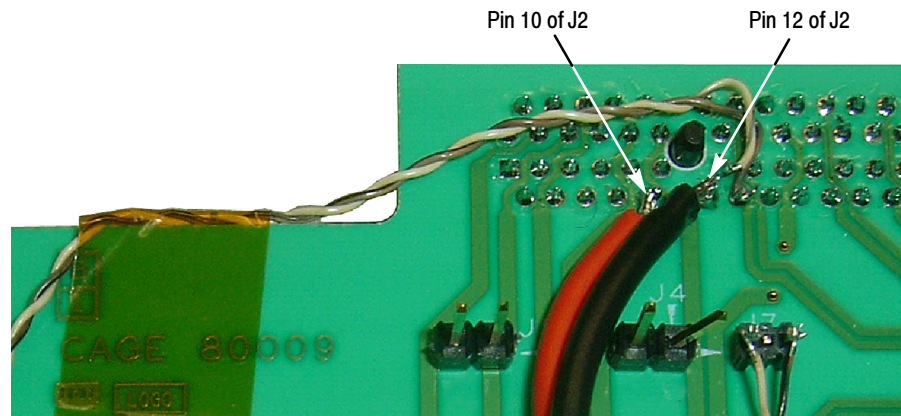

Figure 6: Solder power and ground wires
4. Solder the red power wire to pin 10 of the J2 connector on the back of the slot connector. See Figures 6 and 7.